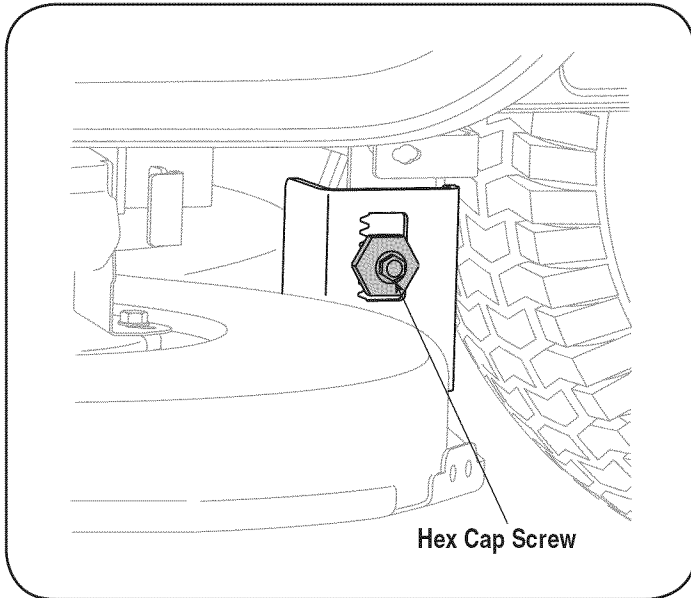

Figure 18
3. Loosen, but do NOT remove, the hex cap screw on the left deck hanger bracket. See Fig. 18.